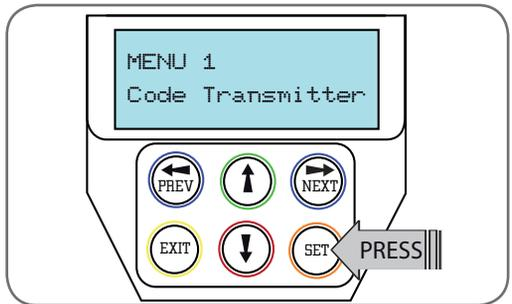

Fig 8.6
- Press SET to enter the code set procedure (**Fig. 8.6**).